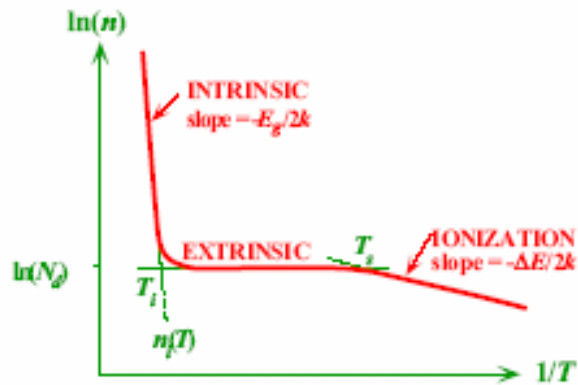

Fig. 5.15: The temperature dependence of the electron concentration in an n-type semiconductor.
d) Refer to Figures 5.15 and 5.14. (4 pts)